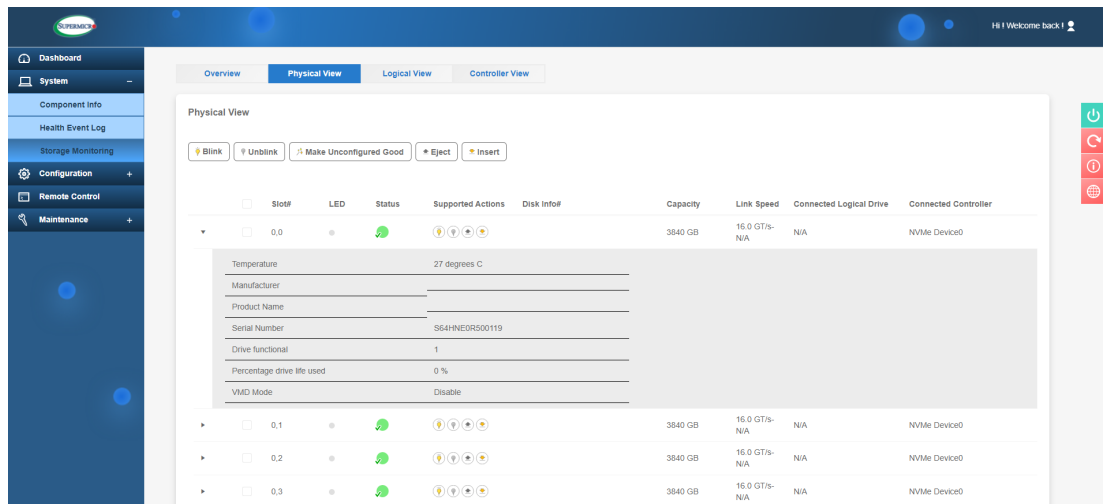

Figure 3-4. IPMI Screenshot
- **System > Component Info > Sensor** – Clicking on the ARROW next to the slot will display additional drive information. This will show the temperature of each NVME drive, as shown in Figure 3-4.